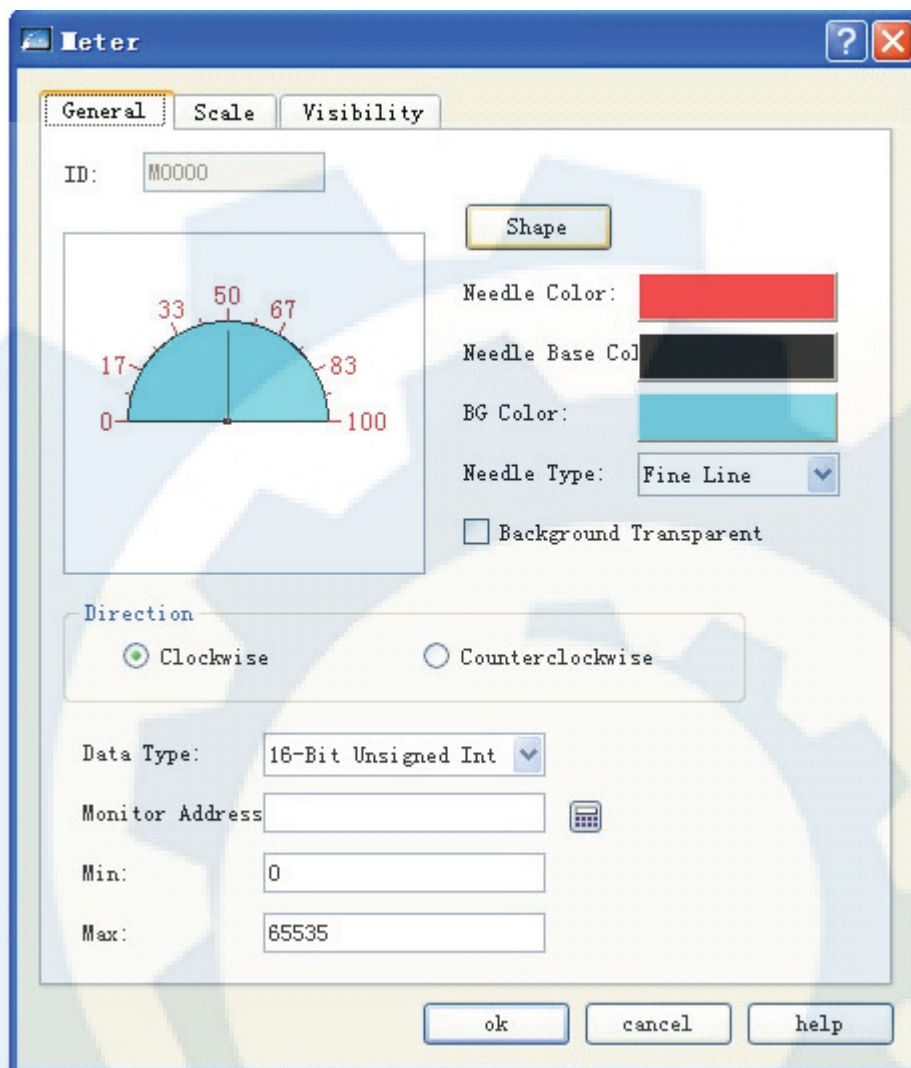

Figure 4-67: Meter dialog
1. Click Meter control icon  in the tool bar, and then a dialog as shown in Figure 4-67 will appear.